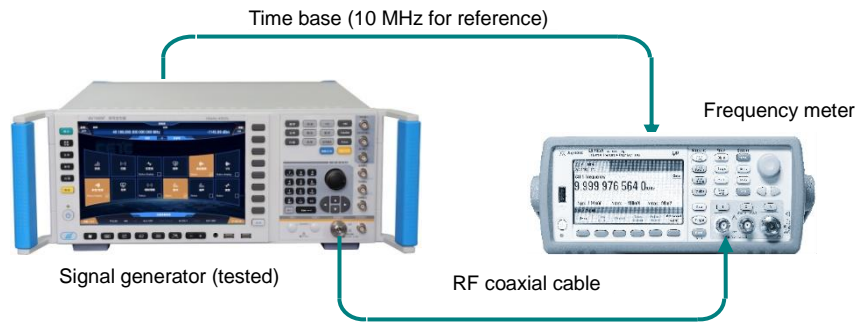

Figure 8.2 Frequency Resolution Test
**Step 2. Connect the device as shown in Figure 8.2.**